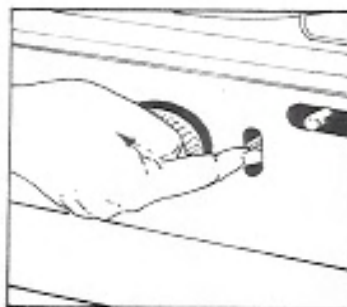

Fig. 5
- (2) Setting of emergency shut off device. This heater is equipped with shut off device which is designed to extinguish the heater automatically when the heater is disturbed, shaken or overturned. The weight will activate the emergency shut-off device and immediately extinguish the flame. It is operated by a spring which retracts the wick and snuffs out the flame. You must set this system before lighting by pushing the lever up gently. (Fig. 5)